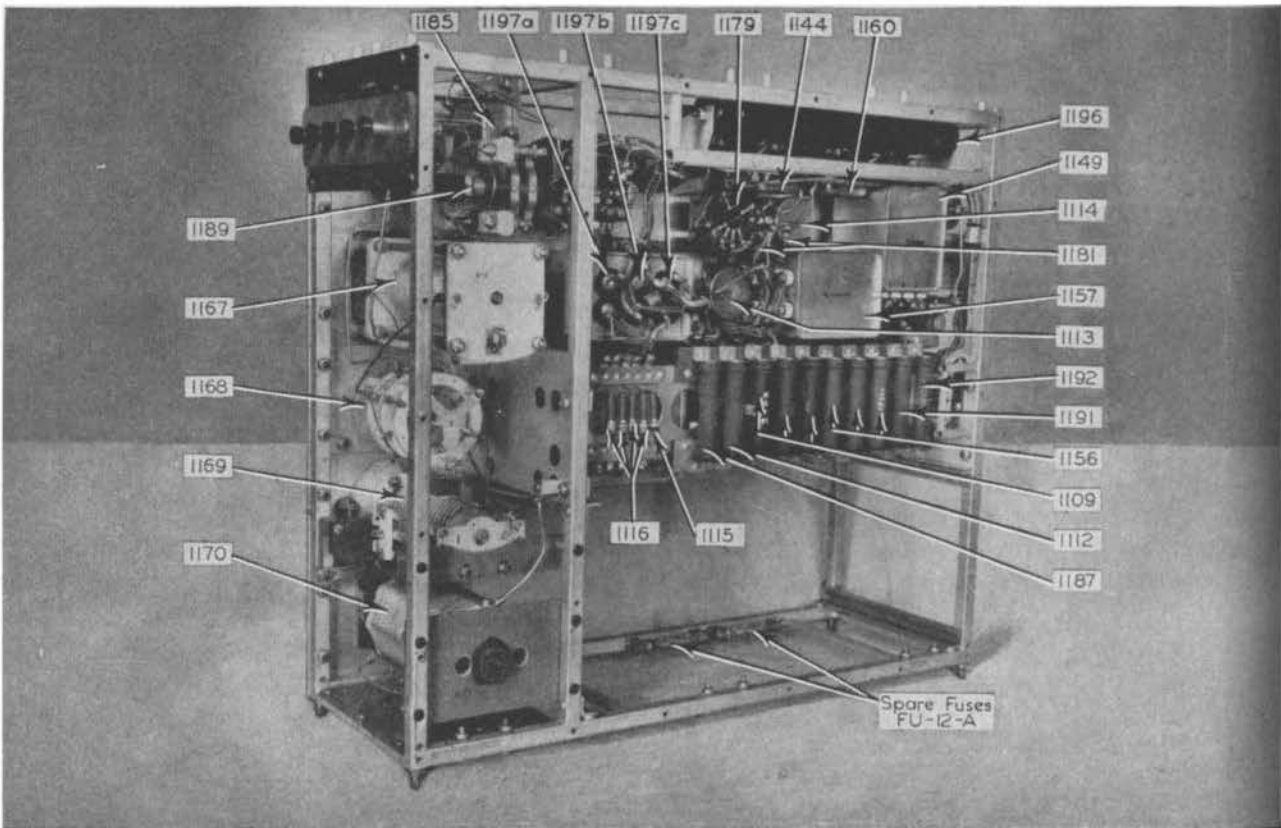

Figure 71. Radio Transmitter BC-375-D, Rear View, Mounting FT-151-A and Shields Removed
- (3) Modulator bias voltage of 72 to 75 should be obtained across capacitor 1160 (Figure 71 and 83) the positive side being at ground potential. Selector switch (6 Figure 50) should be on VOICE.
- (4) Speech amplifier bias voltage of 35 to 40 should be obtained across capacitor 1144, Figure 71, the positive side being at ground potential. Transmitter switch should be on VOICE.
- (6) Keying voltage of approximately 200 volts will be obtained across resistor 1115 when keying relay 1189 is open, Figure 71.
- (1) Speech-amplifier plate current should be from 17 to 22 milliamperes. Adjustment of the bias voltage to obtain this value is accomplished by potentiometer 1114, Figure 71, which is accessible in the tube compartment.
- (2) Modulator plate current may be determined by observing the increase in total plate current reading when changing from CW to VOICE and impressing normal modulation. The modulator plate current should average 100 to 160 milliamperes for sustained tones. A greater or smaller value than this indicates that a readjustment of the input should be made.
- (3) Master-oscillator plate current can be determined on the TOTAL PLATE CURRENT meter by removing the power-amplifier and speech-amplifier tubes and placing the radio transmitter on CW. The current indicated should be from 30 to 75 milliamperes, depending on the transmitter tuning unit in use.
- (4) Power-amplifier plate current may be determined by subtracting from the total plate current on CW the currents drawn
- (5) Master-oscillator grid current can be determined by connecting a DC milliammeter in series with resistor 1109, See Figure 71. Correct value should be from 30 to 50 milliamperes.
- (6) Power-amplifier grid current can be determined by inserting a DC milliammeter in series with resistor 1112, See Figure 71. Correct value should be from 15 to 25 milliamperes.